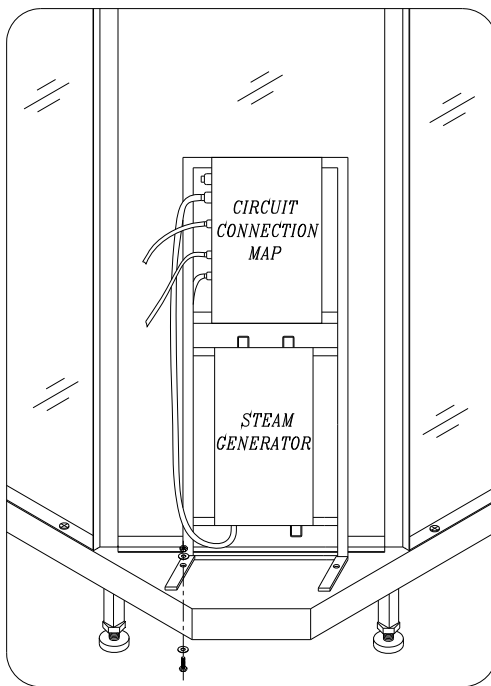

Fig 13
14. Place the **Generator assembly (17)** on the tray; then secure it to the tray with Bolt **M6x25 (with washer) (22)**. Connect the light, fan, speaker wire from the roof to the generator. Connect the steam generator circuits; then connect it to the power supply. See Fig 13 for details. **DO NOT turn power supply on until the water supply, the drain and steam line will be connected.**